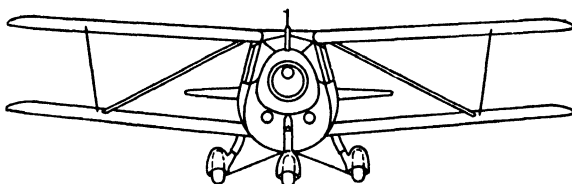

Fig. 199.—The Gwinn Aircar uses this section.
3. Find the data for a 20-in. rib of airfoil section N.A.C.A. 4418 used in building the wing of the Gwinn Aircar (Fig. 199).